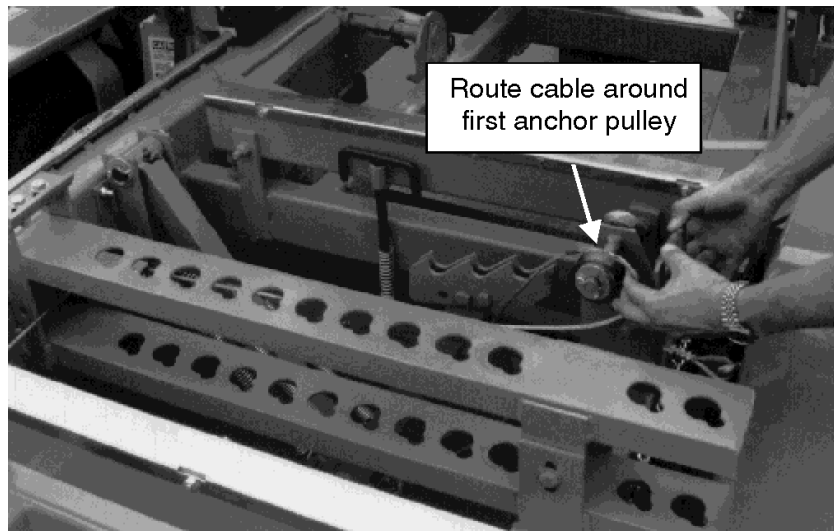

FIG. 1-2
2. Route the cable around the first anchor pulley as shown in FIG. 1-2.